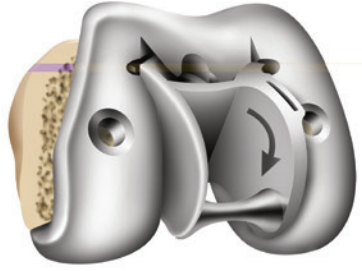

Figure 34
- 2 Insert the arms of the femoral cam module into the anterior aspect of the femoral trial box and rotate posteriorly until seated (Figures 34 and 35).